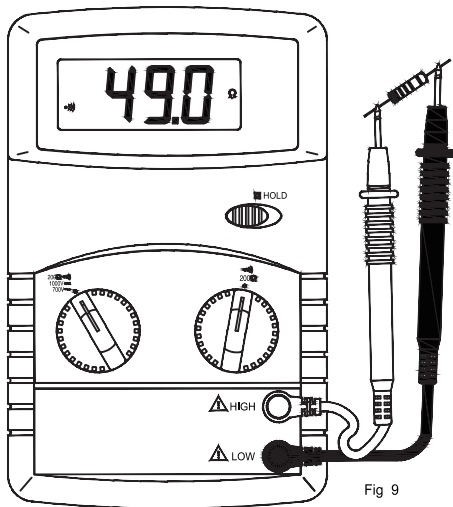

Fig 9
4.9 MEASURING RESISTANCE (See Fig 9)
(see Fig 9)